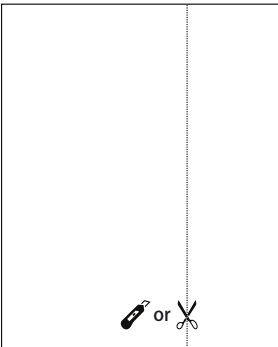

Fig. 21
- B. Mark a line on the provided accordion panel insulation that is 1/8" (3 mm) less than the measured width in step 1, then cut the Accordion Panel Insulation along the line (Fig. 21).